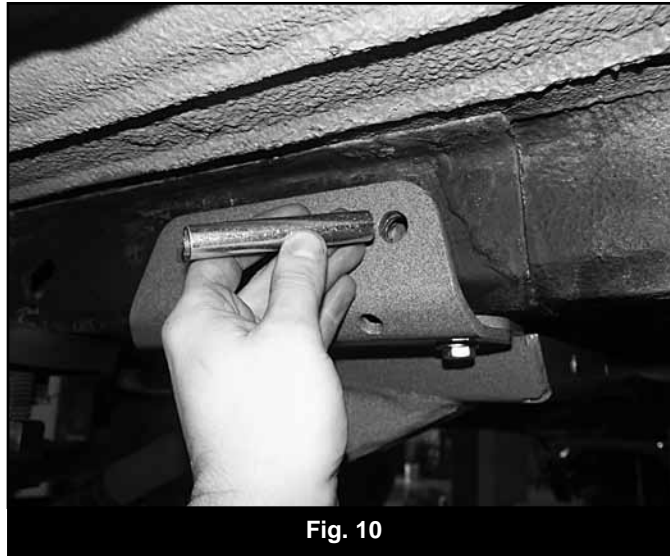

Fig. 10
24. Insert the provided 5/8" x 3-5/8" frame crush sleeve (22) in the 5/8" hole just drilled in the frame (Fig 10). Do not push it all the way in at this time.